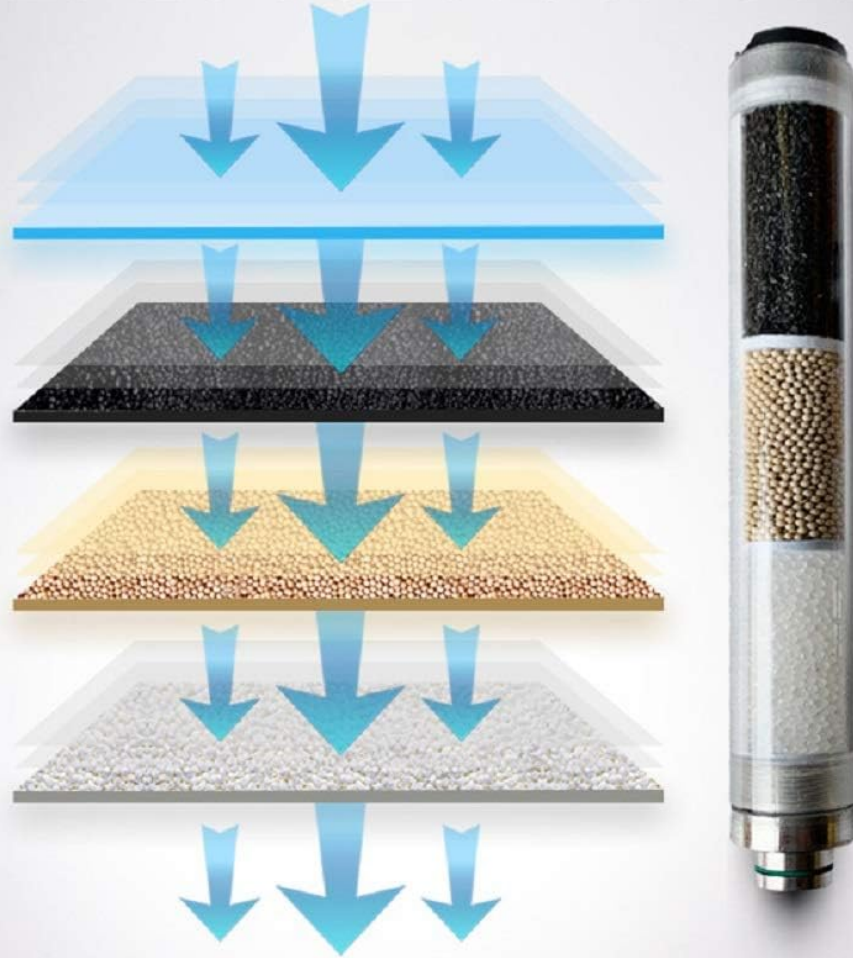

Figure 3.1: Diagram illustrating the multi-stage deep filtration process, showing how air passes through different media layers for purification.
2. **Assemble Filter Elements:** Ensure the internal filter elements (cotton pads, activated carbon, molecular sieve) are correctly inserted into the filter cylinders as per the diagram (refer to Figure 3.1).